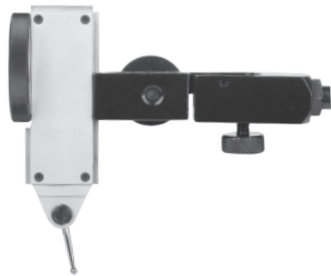

fig.2
- It can be fixed by dovetail groove directly (fig.2)